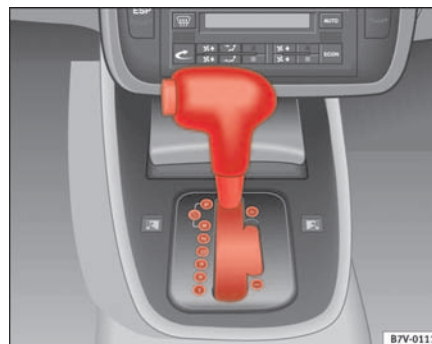

Fig. 128 Section of centre console: selector lever with lock button
- Press and hold the brake pedal and press the selector lever lock on the left of the selector lever at the same time ⇒ page 166, fig. 128.
- Press and hold the lock button (button on the left in the selector lever) ⇒ page 166, fig. 128, select gear position (**R**, **D** or **S**).